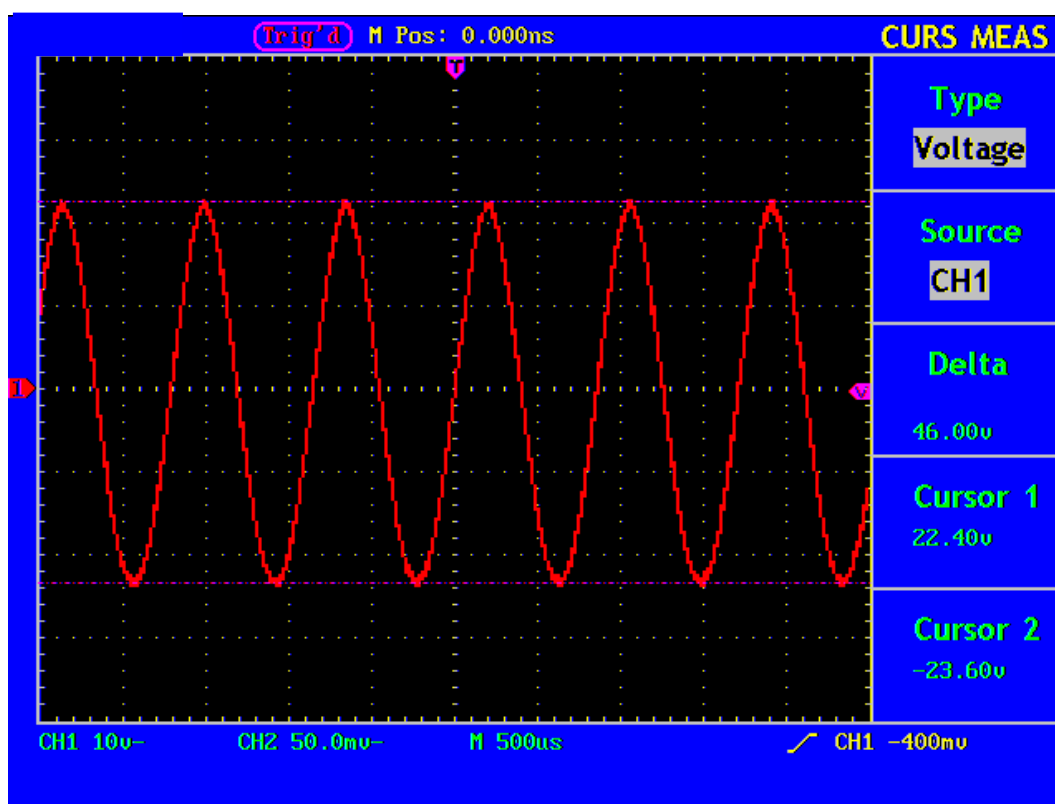

Fig. 51 Wave Form of Voltage Cursor Measurement
4. Adjust the positions of **CURSOR 1** and **CURSOR 2** according to the measured wave form, with the absolute value of the voltage amplitude difference between Cursor 1 and Cursor 2 displayed in the increment window. The current position of Cursor 1 is displayed in the Cursor 1 window and that of Cursor 2 is displayed in the Cursor 2 window (see Fig. 51).